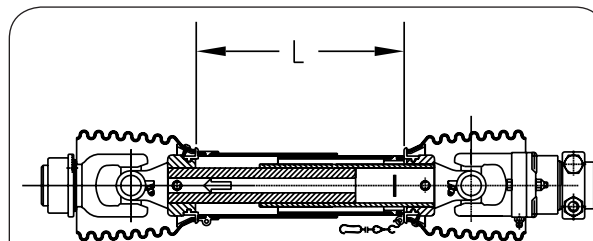

FIG. 4-51
1. Fully collapse PTO shaft and measure length "L" (Fig. 4-51).